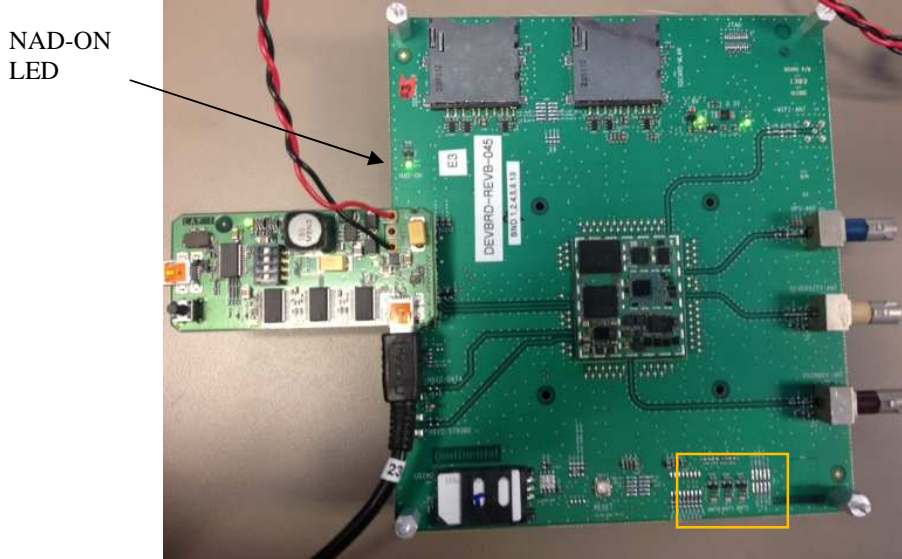

Fig. 6 NAD-ON LED Location and Band Selection Indicators.
- [22] The band selection can be checked with the Band Selection Indicator LEDs, shown in Fig.6, as follows: